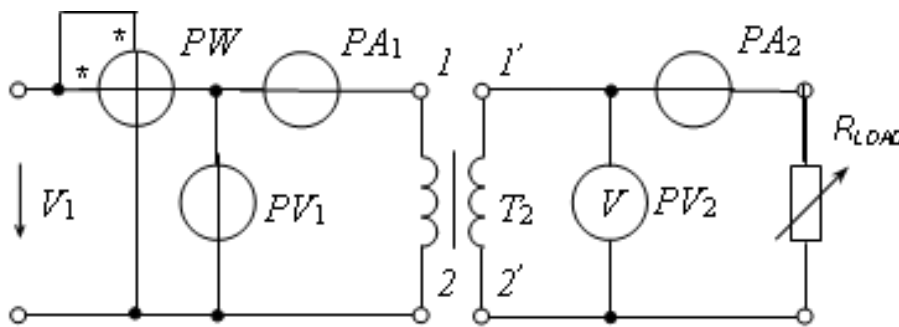

Fig. 5.13.
2. Collect the electrical circuit (fig. 5.13). Investigate the transformer at open circuit mode (clamps 2-2' open) with a nominal input voltage $V_{Inom}=220V$. Fill in the table 5.2 with results.
circuits (fig 5.13, 5.14, 5.15). The table 5.2. Calculations. Conclusions.